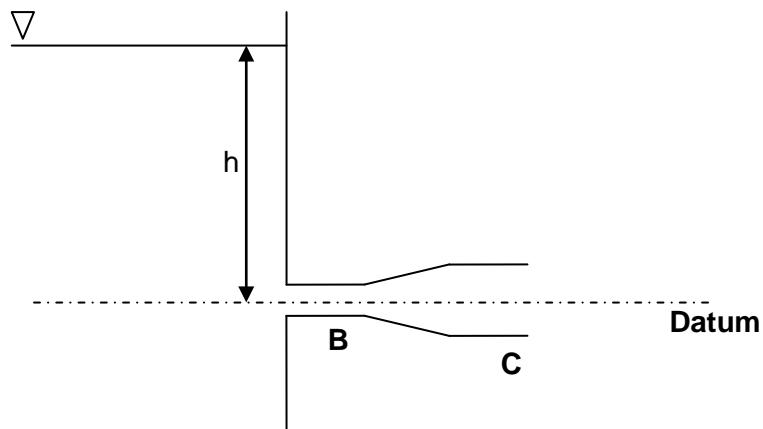

Figure 9 / Rajah 9
- [c] Referring to Figure 9, assume the tube flows full and all friction losses are negligible. The diameter at B is 60 mm and the diameter of jet discharging into the air is 80 mm. If $h = 5 \text{ m}$, what is the flow rate? What is the pressure head at B? What is the flow rate? What would be the flow rate if the tube were cut off at B?